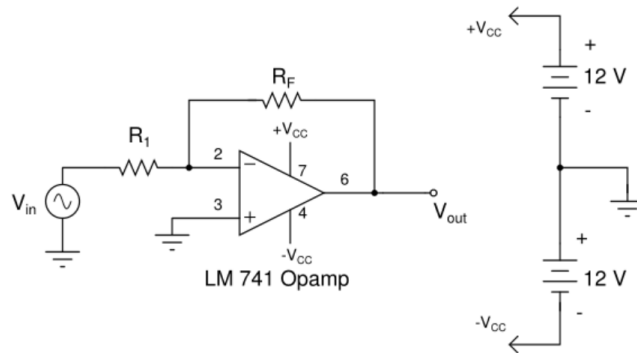

Fig. 3 Op amp inverting amplifier circuit (with $+V_{cc}$ and $-V_{cc}$ power supply connections)
- Connect V_{in} to the circuit as shown in Fig. 3 and connect it also to DSO CH1.